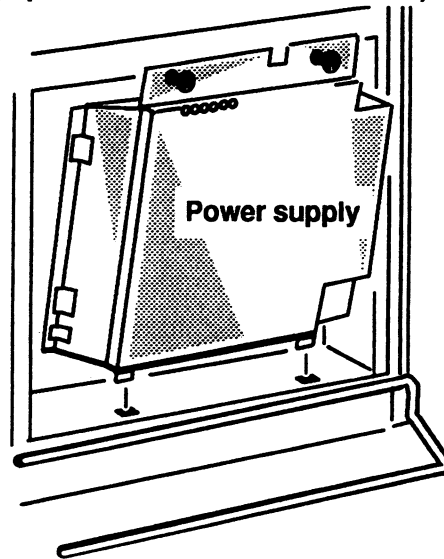

Figure 6-7 Inserting the Power Supply to the Computer Unit
3. Insert the two tabs on the bottom of the power supply into the slots at the base of the computer unit as shown in Figure 6-7.